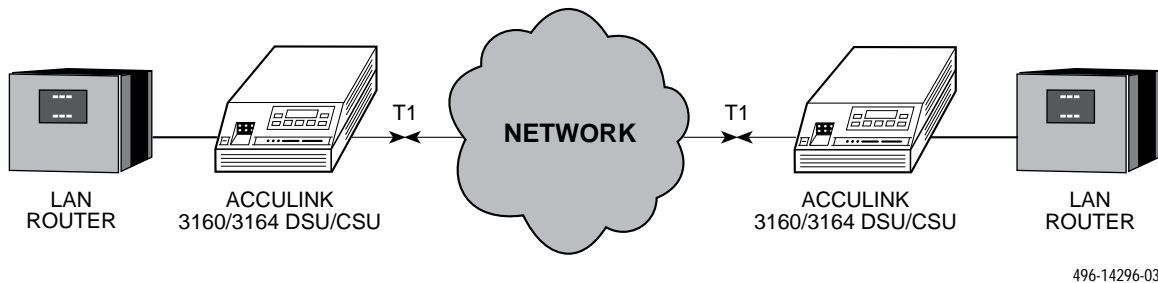

Figure 2-1. Example Point-to-Point Configuration
- Point-to-point LAN interconnection (Figure 2-1).